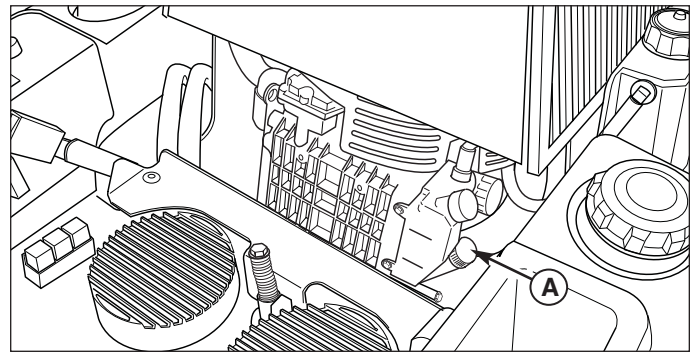

Figure 14. Oil Dipstick and Filter
3. Remove dipstick (A, Figure 14) and wipe with clean cloth.